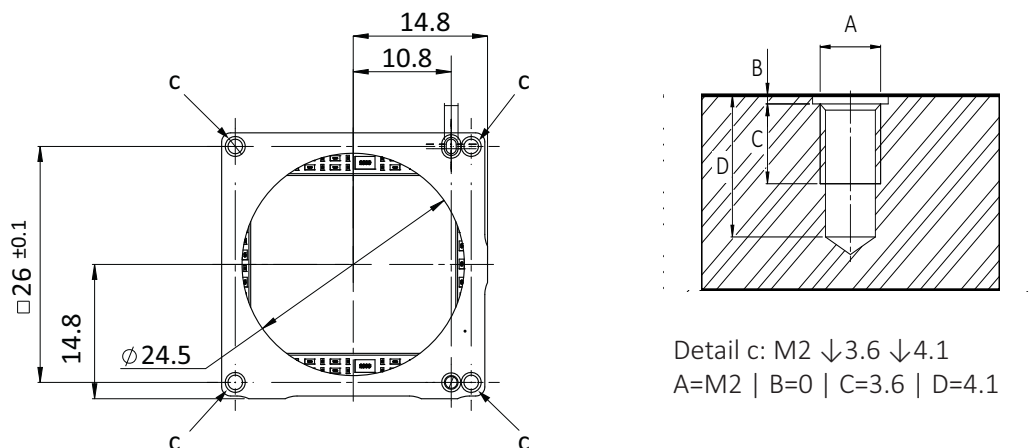

Figure 88: Mounting threads Alvium Frame
As shown in Figure 88, mount the camera to the base using suitable M2 screws for the 4 mounting threads: At 0.4 Nm maximum torque for a thread engagement (C) of 3.6 mm between screws and mounting threads.